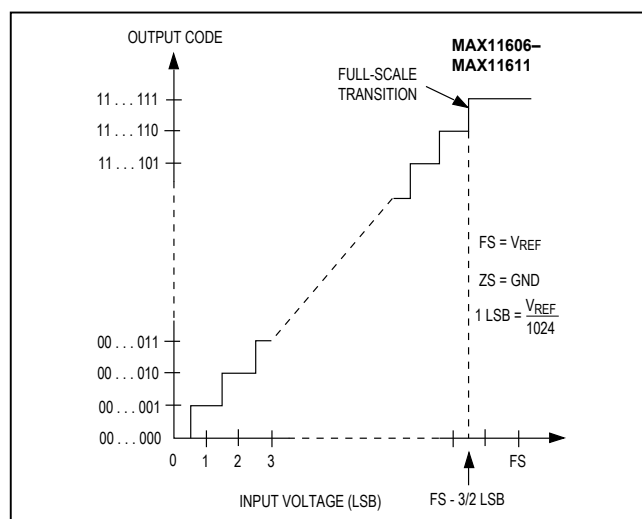
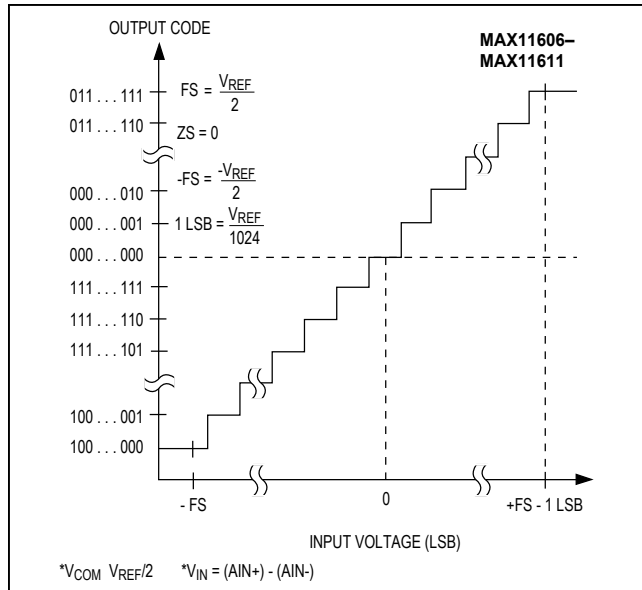

Figure 12. Unipolar Transfer Function
Figure 13. Bipolar Transfer Function
Output data coding for the MAX11606–MAX11611 is binary in unipolar mode and two's complement in bipolar mode with 1LSB = ($V_{REF}/2N$) where N is the number of bits (10). Code transitions occur halfway between successive-integer LSB values. Figure 12 and Figure 13 show the input/output (I/O) transfer functions for unipolar and bipolar operations, respectively.